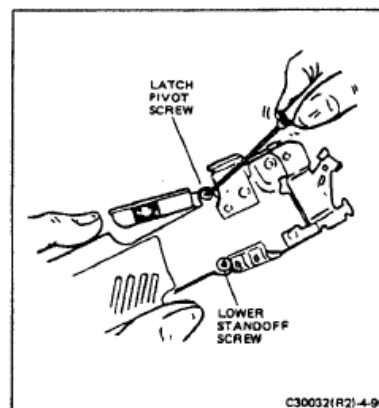

FIGURE 4-96 REMOVING FRONT COVER LATCH
4. Remove the latch pivot screw and the lower standoff screw (Figure 4-96).
5. Replace the latch pivot screw and the lower standoff screw (Figure 4-96) to secure the latch.